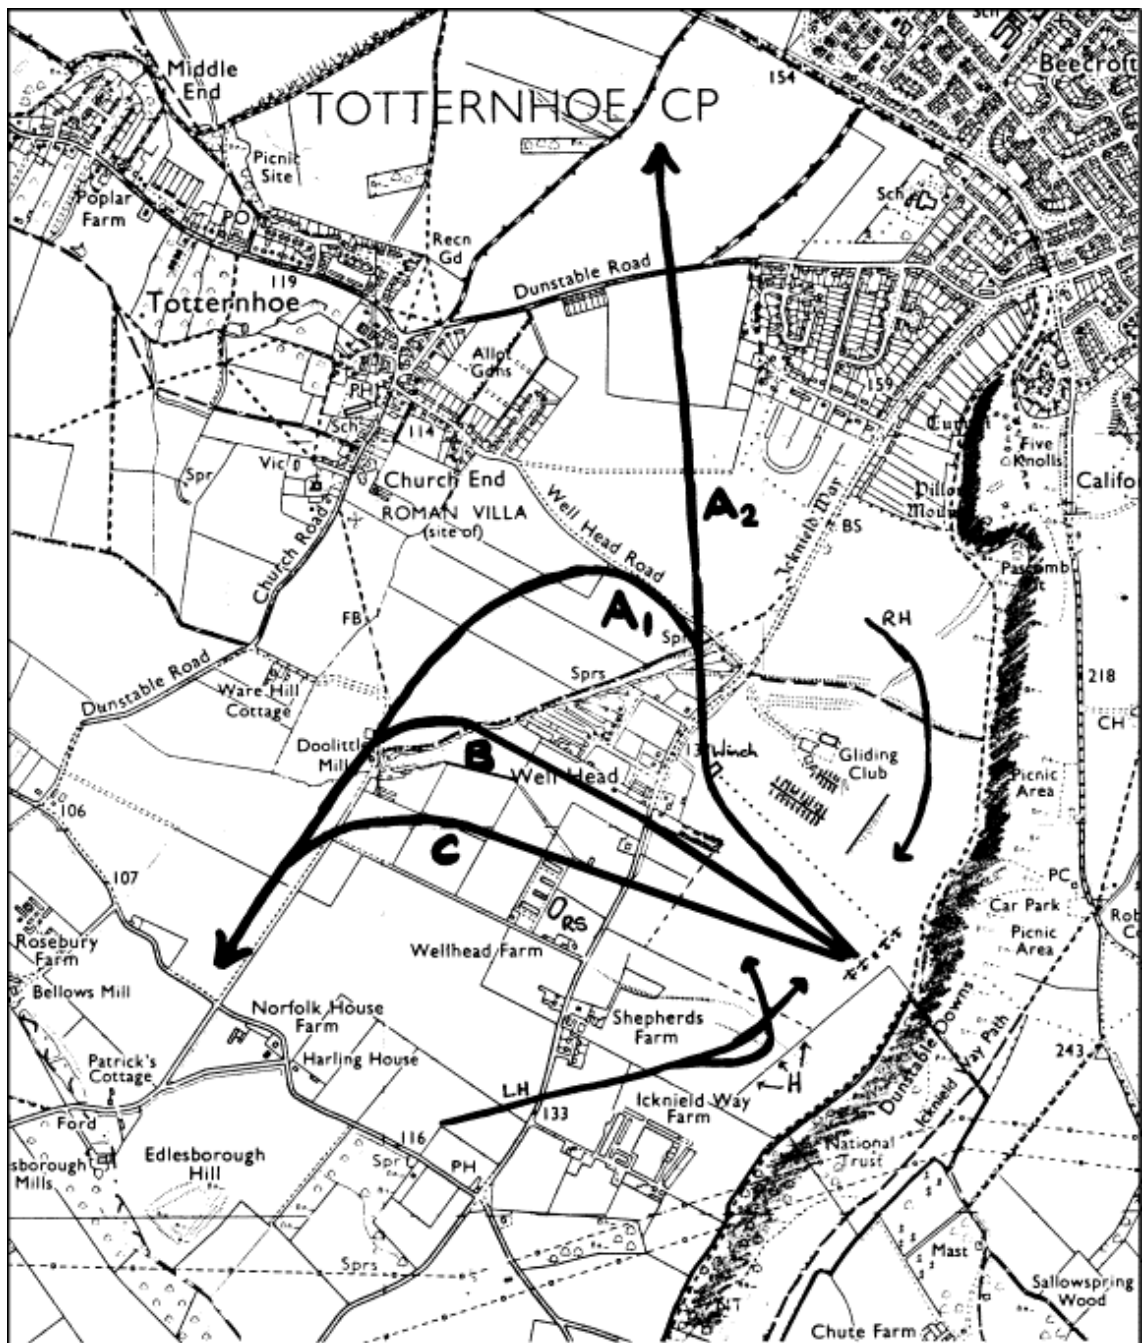

Figure 4
*Take off.* This take-off run is particularly noise sensitive and the direct overflying of the houses on the Tring Road **must** be avoided at all times. This allows three possible take-off paths, as shown in Figure 4. The most northerly (A) goes very close to the winch and special care must be made to co-ordinate with the tower. The middle options (B) keeps just to the south of the hedge line. The southerly option (C) allows a little more space but goes very close to the riding school, marked RS on the map. Try to avoid their training area as well as the buildings.